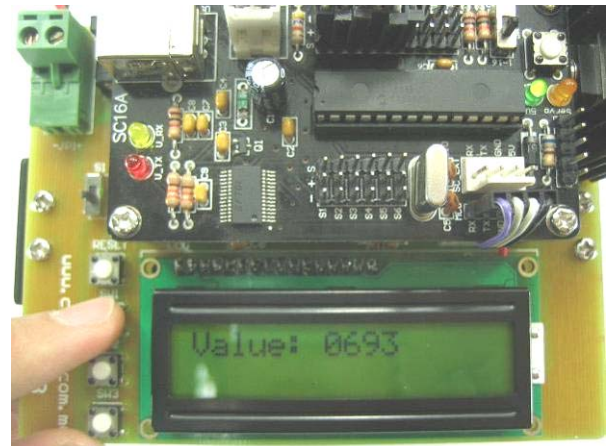

Figure 97
- Press SW1/SW2 to decrease/increase the value. For this example, the value (693) of the channel (L2, i.e. S11) brings the servo motor to its middle position. Refer figure 97 and figure 98.